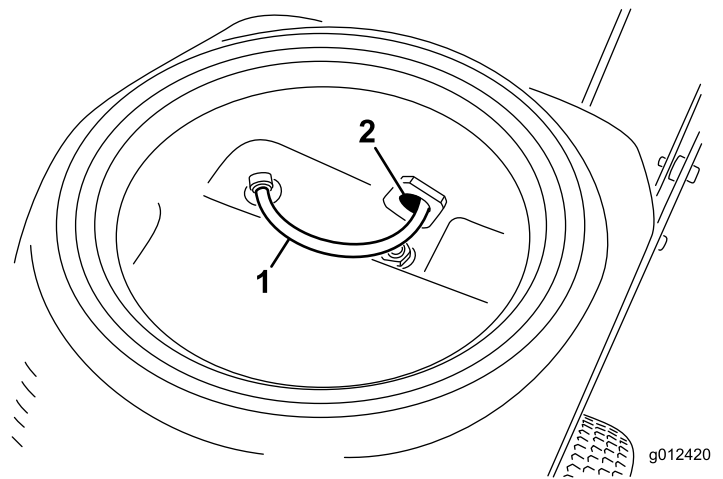

Figure 32
4. Inside the paint tank, insert the agitation line into the drain valve, as shown in Figure 32.